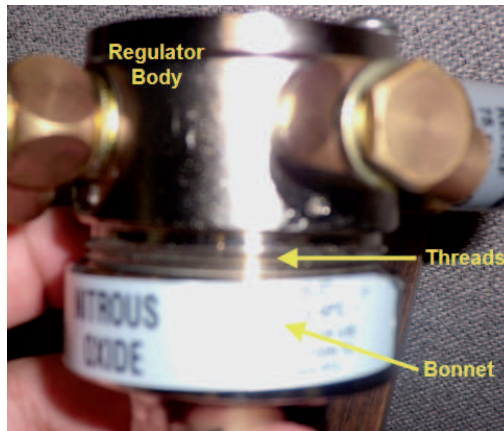

Figure 81 - Attach the Bonnet to the Regulator
12. Fasten the bonnet to the threads of the regulator body (Figure 81). Ensure that the assembly stays in place.